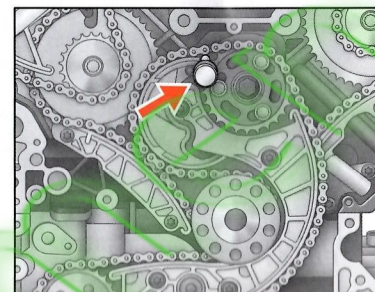

Fig.45
- (1) Insert Balance Shaft Locking Pin (Part No.C) through the balance shaft and into the datum hole in the bearing plate. (Fig.45)